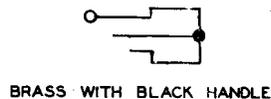

Fig. 2—376A Plug
2.02 376A: The 376A plug (Fig. 2) is equipped with a shield which obscures light and is used with the 49- or similar-type jacks.